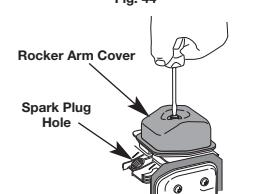

Fig. 45
Remove the screw holding the rocker arm cover with a large flat blade screwdriver or Torx T-25 bit (Fig. 45). Remove the rocker arm cover and gasket.
- The piston is at the top of its travel while looking in the spark plug hole (Fig. 45).